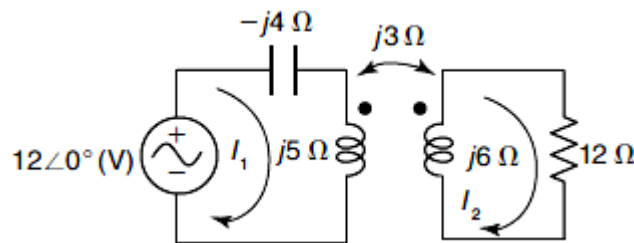

Figure:1
2. Calculate the currents I_1 and I_2 for the following circuit shown in figure1. [15]